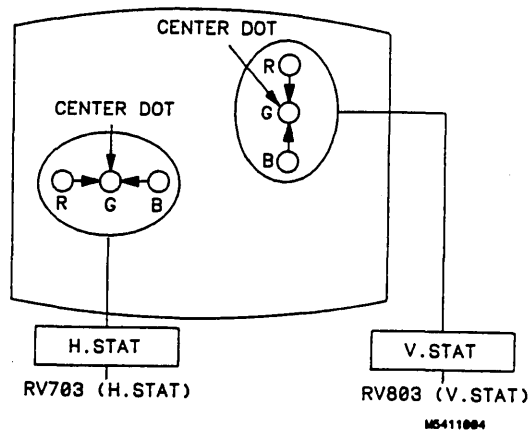

Figure 4-18. Static Convergence.
5. Check four dots which are located around center intersection of cross-hatch pattern for coincidence of blue, red, and green dots. If the dots are not coincident, adjust H.STAT (RV703), located on rear PC board, to obtain horizontal coincidence and V.STAT (RV803), located on bottom PC board, to obtain vertical coincidence (see figure 4-18).